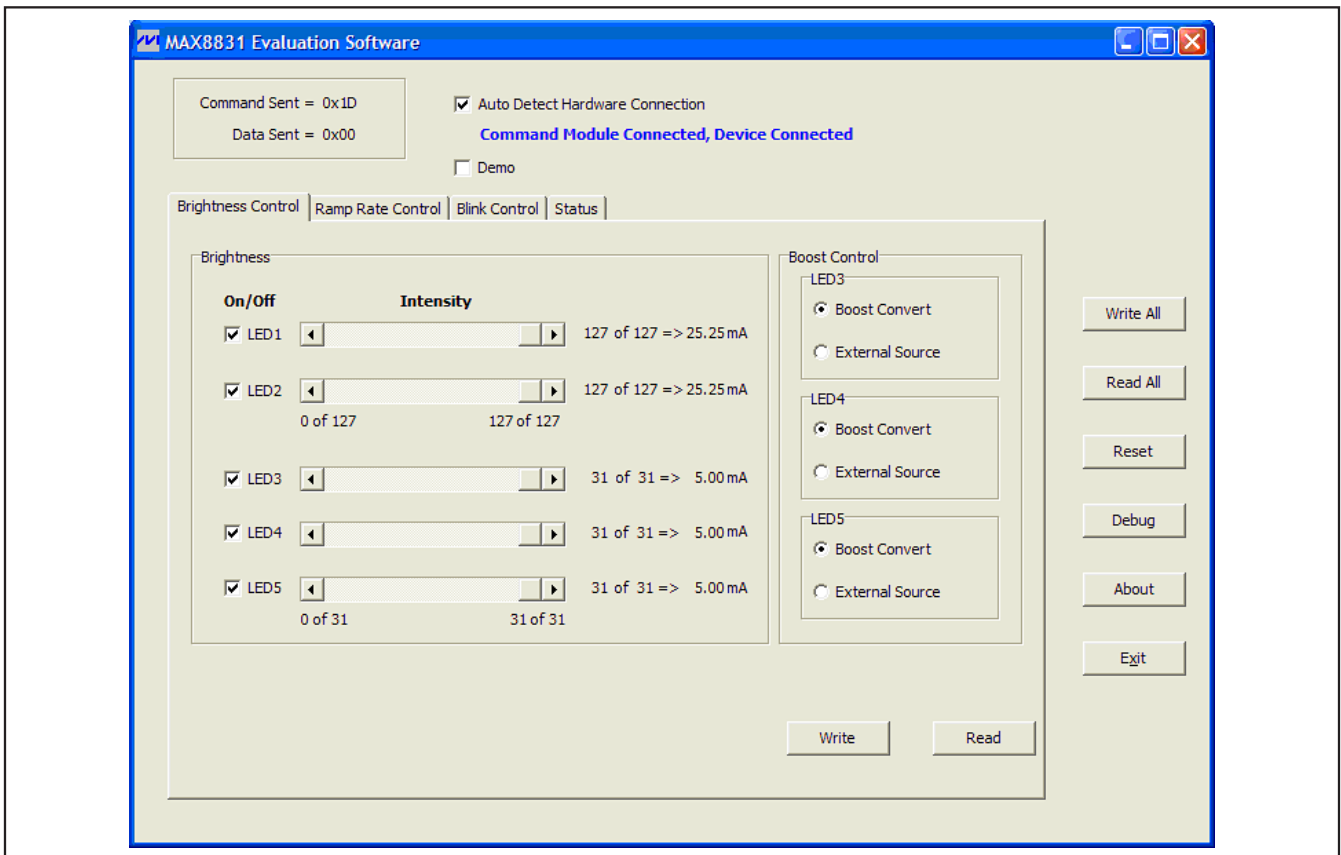

Figure 2. Brightness Control Tab
- 14) Normal device operation is verified when **Command Module Connected, Device Connected** is displayed at the top of the MAX8831 EV kit main window (Figure 2).
- 15) Configure the **Brightness Control** tab, as shown in Figure 2.
The **Brightness Control** tab sheet (Figure 2) provides on/off control and LED current control for the LED1–LED5 strings. LED1 and LED2 are programmable from 50 μ A to 25.25mA in 128 logarithmic steps. LED3, LED4, and LED5 are programmable from 50 μ A to 5mA in 32 logarithmic steps.
Also under the **Brightness Control** tab is the power-supply selector for LED3, LED4, and LED5. If the output voltage of the step-up converter is chosen to supply LED3, LED4, and LED5, verify that **Boost Convert** is selected in the **Boost Control** section (Figure 2). If an alternate supply (VIN2) is chosen to supply LED3, LED4, and LED5, verify that the **External Source** is
The MAX8831 EV kit contains two low-dropout (200mV, max), 25.25mA linear current regulators (LED1, LED2) that can each drive up to 9 series LEDs (depending on the LED string forward voltage) for display backlighting functions. Each high-current regulator is independently enabled and is programmable from 50 μ A to 25.25mA in 128 logarithmic steps (Figure 2) using the MAX8831 EV kit software. Additionally, the MAX8831 EV kit software programs the ramp-up and ramp-down timers for each regulator to one of eight different timing settings. Refer to the *MAX8831 I²C Registers* section in the MAX8831 IC data sheet for details on I²C control of the high-current regulators.
The MAX8831 EV kit also contains three low-dropout (150mV, max), 5mA linear current regulators (LED3, LED4, and LED5) that can each drive up to 9 series LEDs. Each current regulator is independently enabled and is programmable from 50 μ A to 5mA in 32 logarithmic steps (Figure 2) using the MAX8831 EV kit software. The MAX8831 EV kit software also controls individual ramp-up/ramp-down timers and individual blink-on/blink-off timers. Both the ramp and blink features can be individually enabled/disabled. Refer to the *LED3, LED4, and LED5 Blink Control Registers* section in the MAX8831 IC data sheet for details.
install jumpers on JU6, JU7, and JU8 and install a shunt across pins 1-3 of JU12. After the jumpers are properly configured, select **External Source** in the MAX8831 EV kit software (Figure 2). An external power supply can now be connected to VIN2. Ensure that the voltage at VIN2 is high enough to satisfy V_F of the LED plus 150mV of current regulator dropout voltage.
If **Boost Convert** (Figure 2) is selected for LED3, LED4, and LED5, and LED1 and LED2 are not enabled, the step-up converter does not turn on when LED3, LED4, or LED5 are enabled.